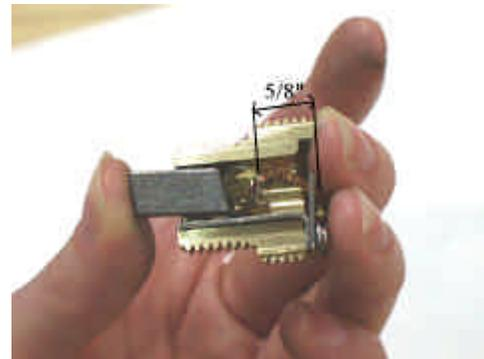

Figure 12: Correct Length of Spring Coil (reference only)
The carbon brush holder contains a spring and a copper wire attached to the rear of the carbon brush (see Figure 12). The fit between the carbon brush and the carbon brush holder is a slip fit. Spring tension is moderate, designed to keep the carbon brush in contact with the rotating motor shaft, but not to induce heavy wear. Under normal conditions, the carbon brush should last several years, depending on the application. It is not uncommon, however, in dirtier environments, for the shaft grounding brush assembly to require periodic cleaning and maintenance. Timely maintenance ensures both proper operation and increases operational life.
4) verify that the maximum distance of the spring coil is 5/8" (see Figure 12 for reference only).